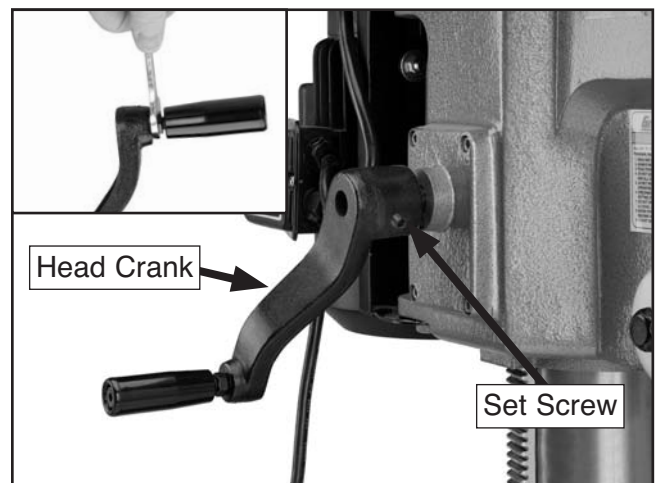

Figure 20. Head crank.
2. Slide the head crank onto the shaft, then tighten the set screw to secure it in place (**Figure 20**).